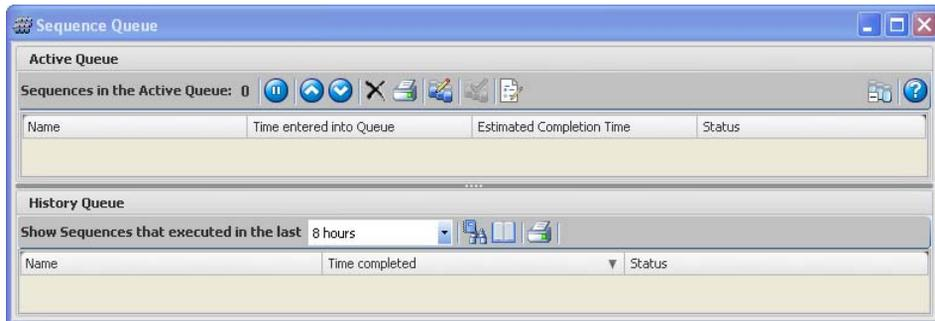

Figure 6 Sequence Queue
- 5 Navigate to **View > Sequence Queue** to view sequences processing in the Sequence Queue (Figure 6).